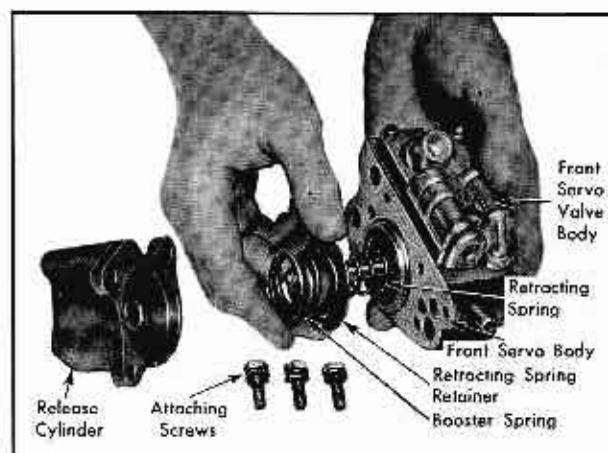

Fig. 14-61 Installing Front Servo Springs
6. Install retracting spring, retainer and booster spring on apply piston assembly stem, Fig. 14-61.